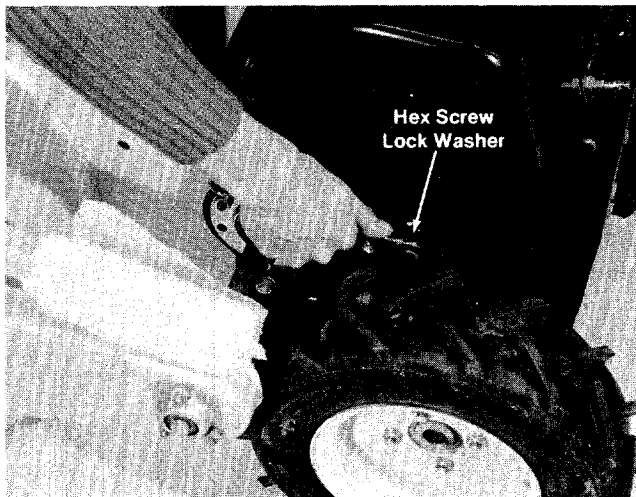

FIGURE 4.
3. To attach handle assembly to the snow thrower, first remove the hex screw and lock washer from each side of snow thrower housing. A 9/16" wrench is required. See figure 4.